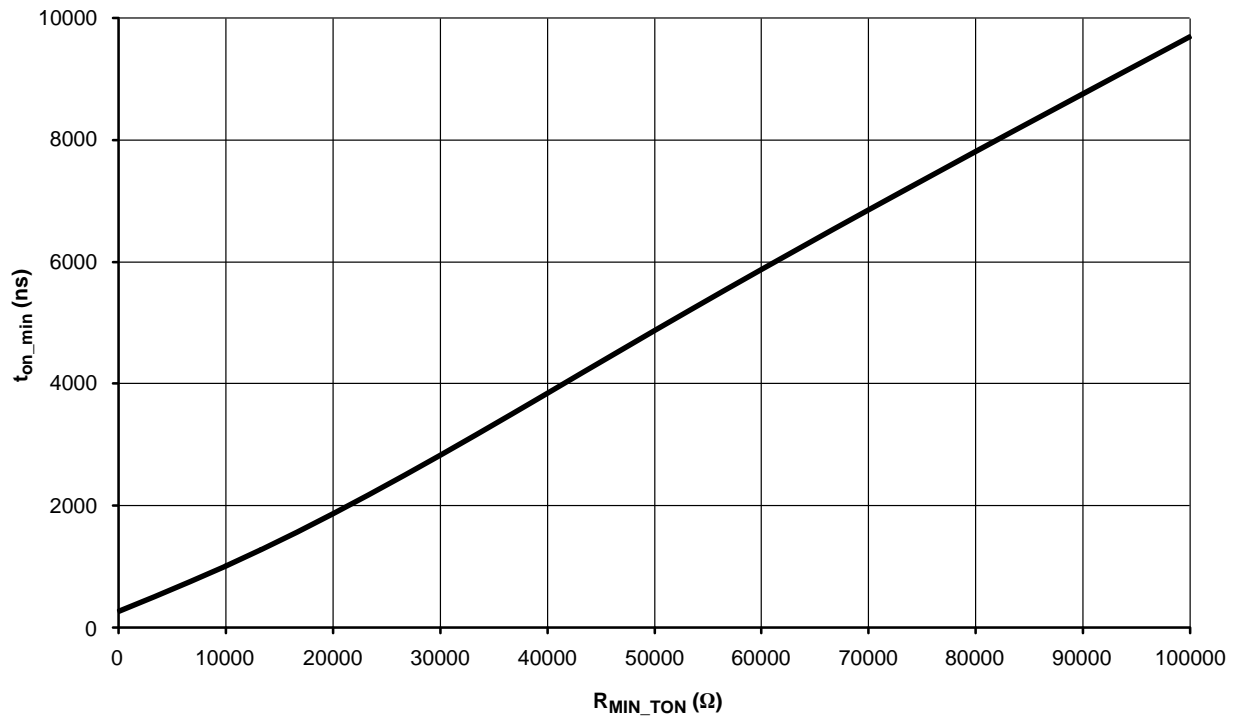

Figure 4.  $t_{on\_min}$  on  $R_{MIN\_TON}$  Dependency
2. Guaranteed by design and verified by characterization, see Figure 4.  $t_{on\_min}$  on  $R_{MIN\_TON}$  dependency.